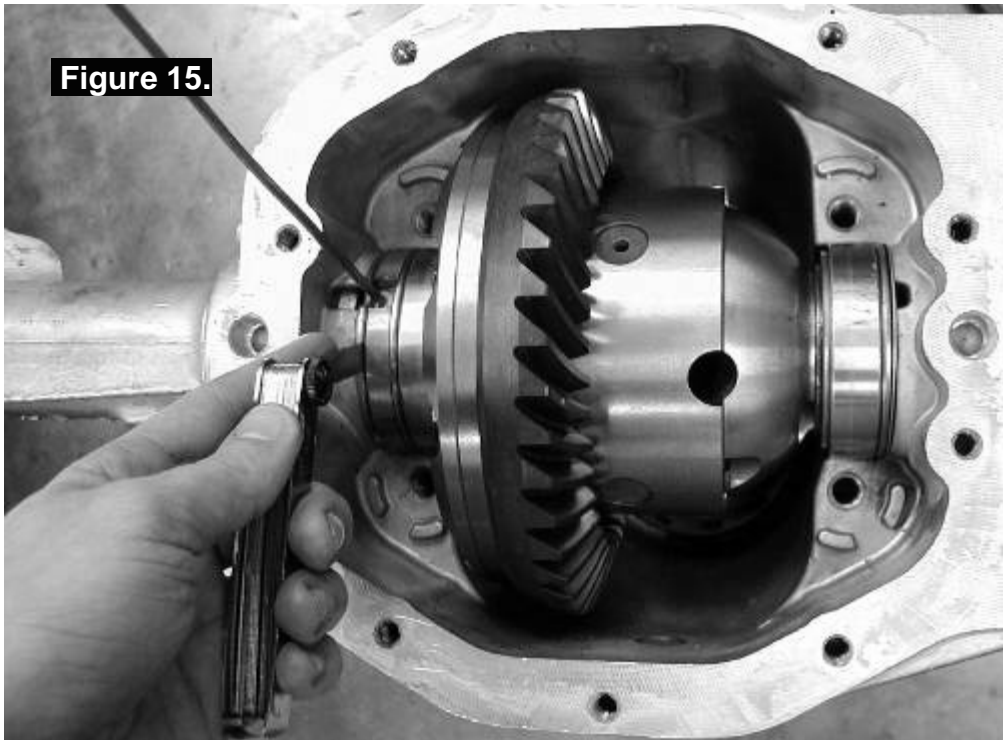

Figure 15.
- Push (or lightly pry) the *Air Locker* hard across to the right-hand side, and measure the maximum gap (also called the 'end float') between the left-hand factory shim and the seal housing with an automotive feeler gauge. (Fig.15.)